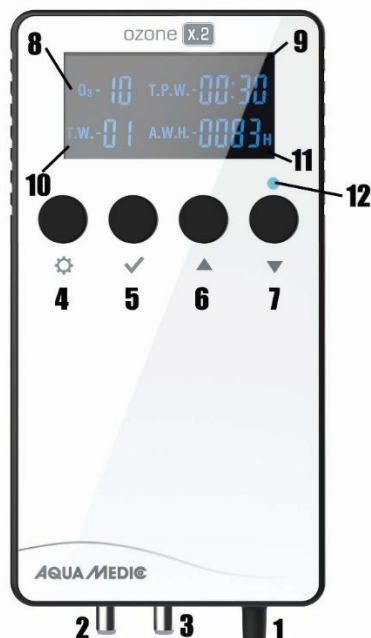

Fig. 3: Parts of the ozone unit:
The ozone unit is equipped with a plus and a minus controller (arrow keys, Fig 3, No. 6 and 7). Herewith, the ozone output can be adjusted continuously from 1 to 10. A standard value is 10 mg ozone/hour for 100 l of saltwater; for freshwater approx. 5 mg ozone/hour. At level 1, an ozone generator operates at around 1/10 of its rated power.
O₃ – Ozone output adjustable in ten steps (max. 10) (Fig. 3, No. 8).
T.P.W. – (Fig. 3, No. 9) The duration for which the ozone generator should run per cycle. Maximum setting: 24:00 = 24 hours. Minimum setting: 00:01 = 1 minute. **Important: if T.W. is set to zero, the ozone generator runs continuously regardless of the T.P.W. setting.**